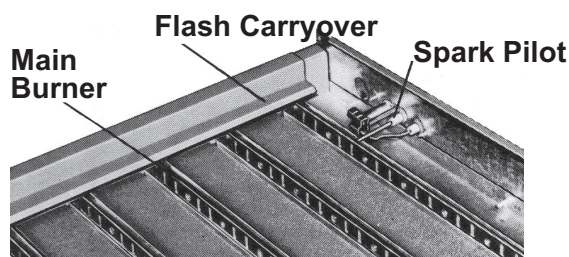

Figure 17. Typical Burner Rack with Spark Pilot
- **Pilot:** The horizontal pilot is located in the control end of the burner rack (see Figure 17) and is accessible after the control compartment panel has been removed. All pilots are target type with lint-free feature. Pilot gas pressure should be the same as supply line pressure (refer to Gas Supply Pressure section). If required, adjust the pilot flame length to approximately 1-1/4 inch using pilot adjustment screw in control valve body.